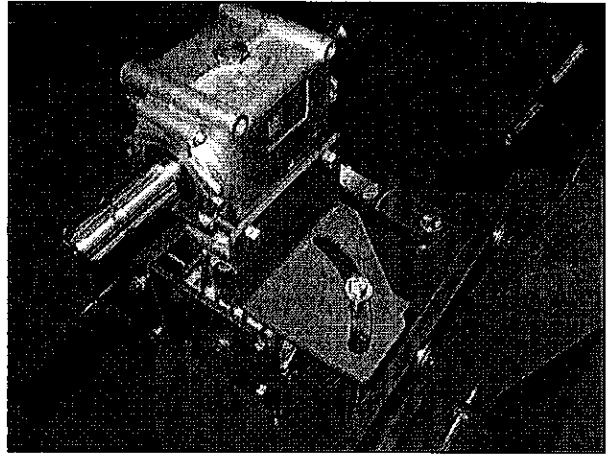

Figure 36
1. Remove the two shields covering the top gearbox. (Figure 36)